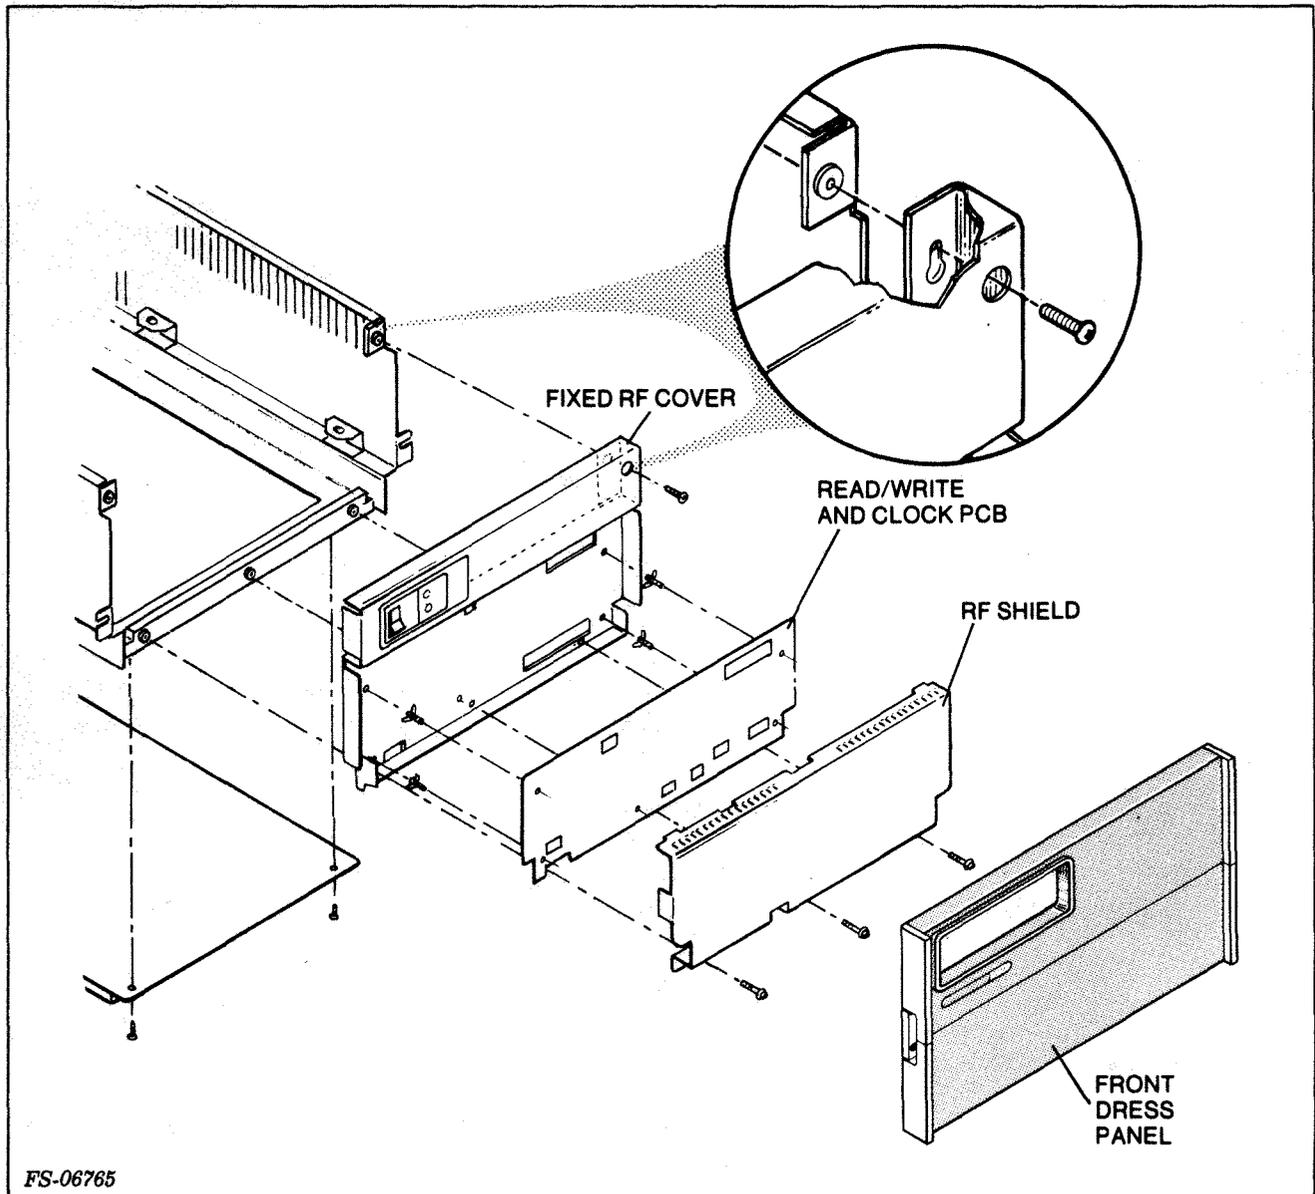

Figure 5-13. Front Covers and Dress Panel
1. power down the drive and remove the front RF cover. See Figure 5-13.
1. Power down the drive and remove the front RF cover. See Figure 5-13.